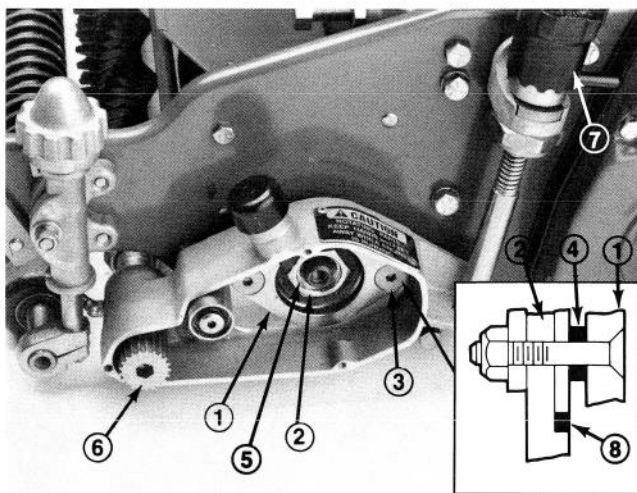

Figure 4
B. Insert an adapter ring into reel bearing housing. Insert the two 3/8-16 x 2" lg. flat head screws through bearing adapter and position spacers on ends of screws (Fig. 4). Align bearing adapter, spacers and screws with bronze bearing and slots in groomer housing. Slide the bearing adapter through the bronze bearing in the groomer housing assembly and into the reel bearing housing. Install locknuts on flat head screws and torque to 23 to 27 ft-lb.
7. Slide one end of the grooming shaft assembly into the bearing support in the groomer housing assembly (Fig. 4). Mount the driven pulley (left hand thread) to the end of the groomer shaft and torque to 29 to 35 ft-lb, using a 3/8" allen socket on a torque wrench (Fig. 4).
B. Remove bearing locknut from reel shaft (Fig. 4). Secure the reel from turning with a wood block.